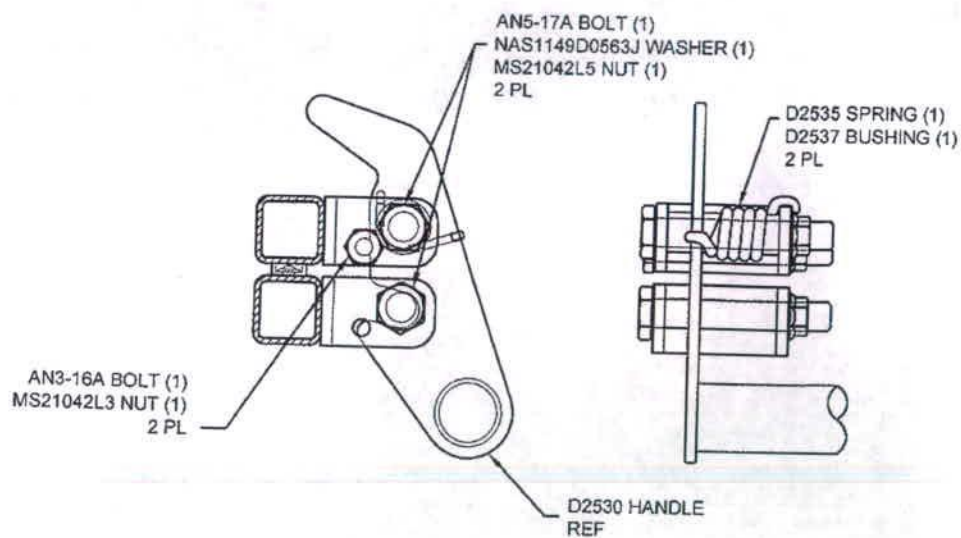

FIGURE 5. - LATCH INSTALLATION
17. Install D2530 Handle, D2535 Springs, D2537 Bushings, and attaching hardware per Figure 5.